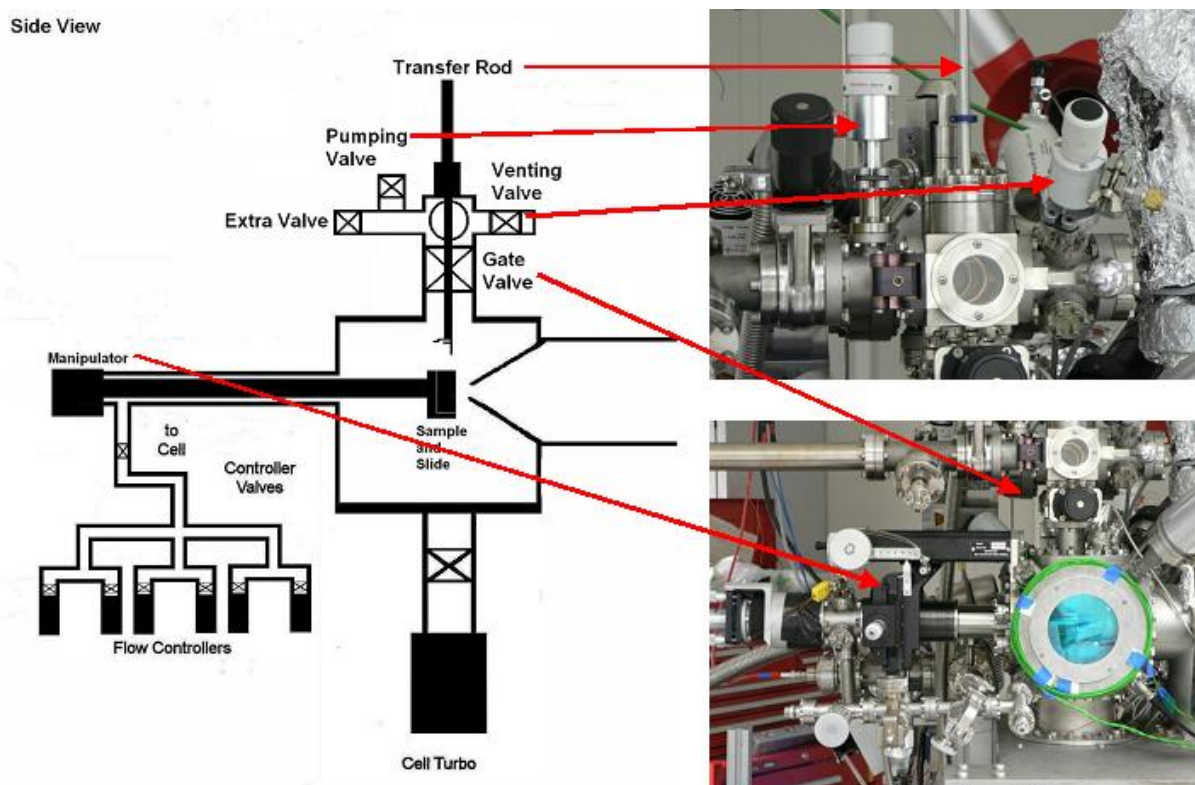

Figure 6: Sample transfer (side view).
3. Switch on power supply for coils (on top of rack 2); make sure coil is attached to window (the blue extra window on top of the UHV window of the reaction cell with the green cable around it (**Fig. 6**, lower right). This window not only serves as a compensation for stray fields but is the **safety window for the IR-Laser!!!**
Take a look at the sketch first (Fig. 6)! Let’s start with a sample prepared for analysis: